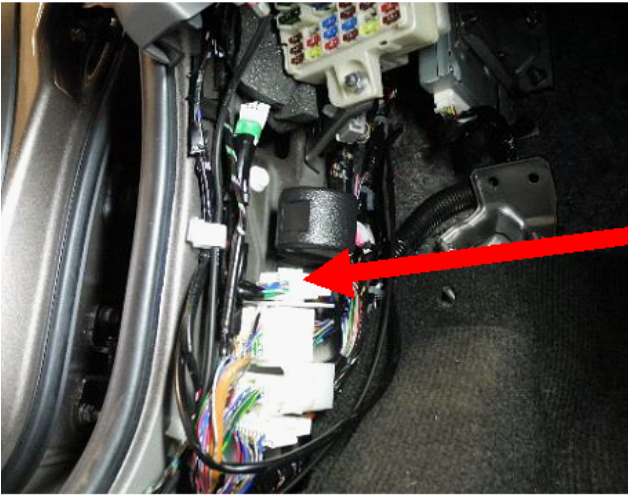
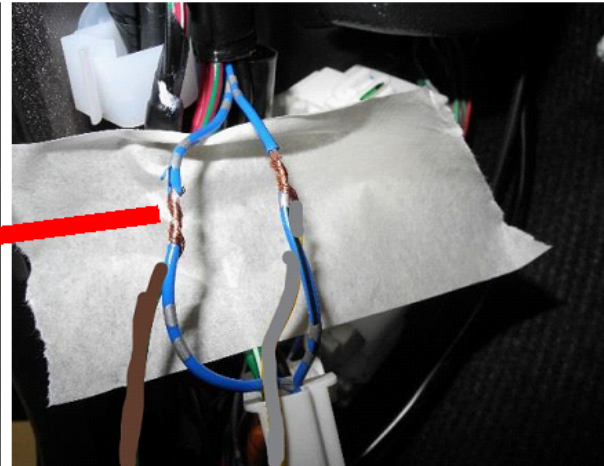

Fig. 6
Fig. 7
- 4 Locate the plug indicated in the drawing (Fig. 6) where the car central lock cables are located and connect cables on vehicle loom to white and brown. (Fig. 7)